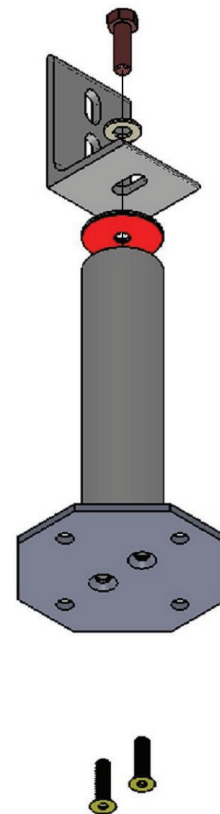

Fig. 1
7. Position your L-foot on top of the washer, aligning the L-foot obround with the hole in the top of the stand-off and washer as shown in Figure 1.